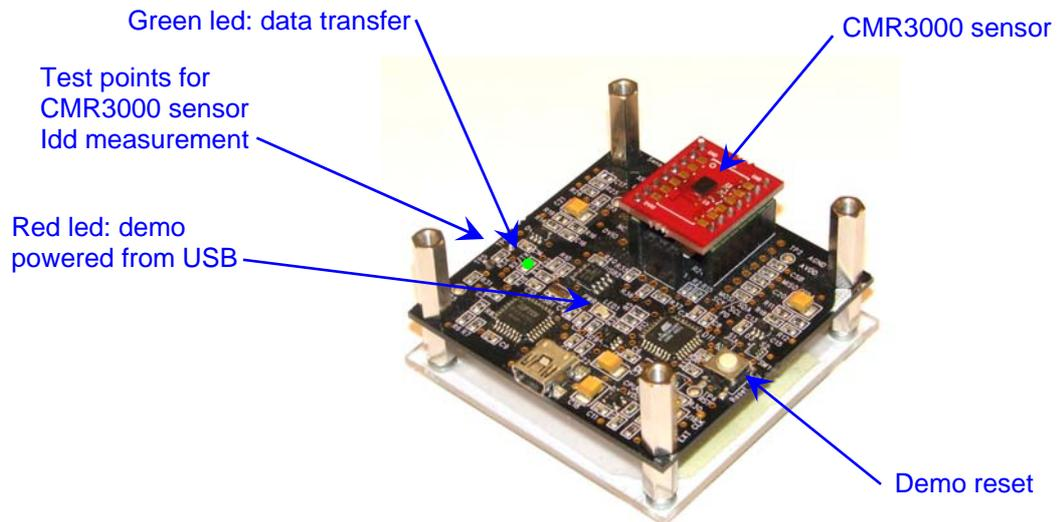
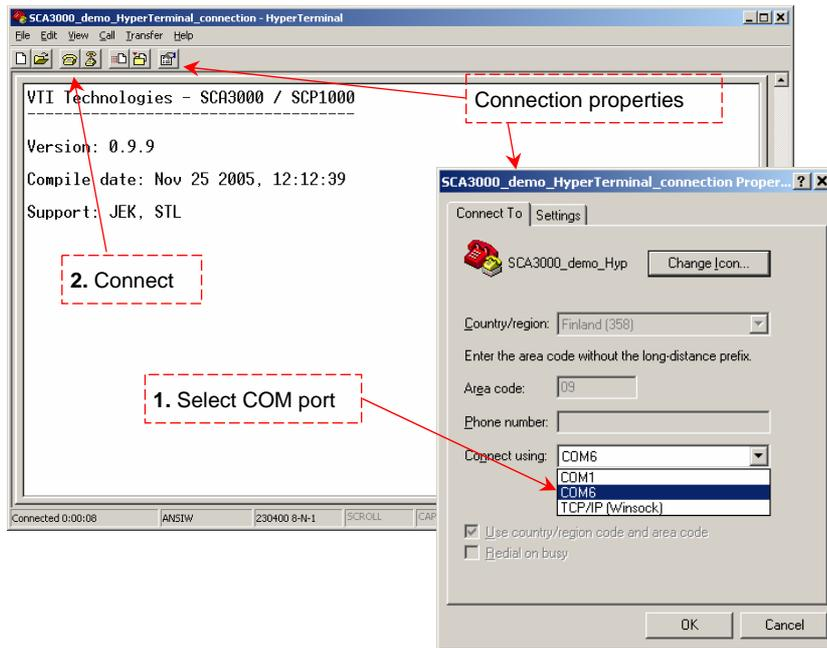

Figure 1. CMR3000 demo USB interface board and CMR3000 PWB.
Figure 5. Windows HyperTerminal with CMR3000 demo info text.
- CMR3000 sensor soldered on chip carrier PWB (see Figure 1 on next page)
- USB interface card (see Figure 1 on next page)
The CMR3000 DEMO KIT USB interface board (black PWB) and CMR3000 PWB (red PWB) are shown in Figure 1. The USB interface card converts the USB interface to SPI or I²C interface. CMR3000 sensor is soldered on PWB which is connected to interface board.
MCU can be reset by exiting from the GUI and then pressing the reset button (Figure 1) on USB interface board for min 3s.
5. Press demo reset button (see Figure 1). CMR3000 DEMO KIT sends an info text to HyperTerminal (see Figure 5). If the HyperTerminal software is unable to connect the CMR3000 DEMO KIT or the info text does not appear,
until info text appears to HyperTerminal screen (see Figure 5).
1. Stop the GUI software, press the reset button program on demo USB interface board (see Figure 1), re-start the GUI again.
- Press demo reset button (see Figure 1)
- see if the info text appears on the screen (see Figure 5)→ if the info text is transmitted, the communication between the demo kit and PC is ok